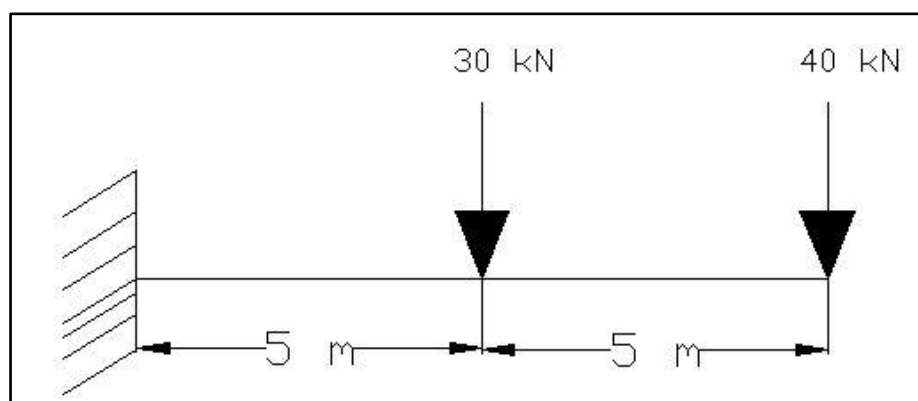

Fig.8
8. (a) Estimate the deflection of the beam as shown in Fig.8 at the free end. Flexural rigidity (EI) is constant throughout. Use conjugate beam method.